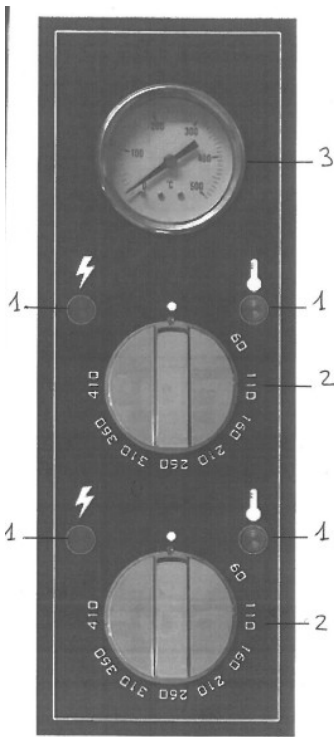

FIG.1 Pannello comandi forni TRAYS
The control panel is installed on the front side of the oven as shown in **FIG. 1**.
- 3) Bring the switch heating elements (**FIG.1; Ref.3**) in **pos."I"**;
- 4) Enable the operation of the resistors setting the thermostats (**FIG 1;-Ref. 2**) on the temperature of **150 °C** indicated on the handle. The related red warning lights signaling the operation of the resistors in use switch on;
- 6) Disable the operation of the resistors setting the thermostats (**FIG. 1; Ref. 2**) in position **"0"** and their warning light will turn off; **For the oven 2/40:** press the general switch and turn off the heating elements;
- 8) Close the door and repeat the process described in Section **4**) bringing the thermostat (**FIG. 1; Rif.2**) at the temperature of **400 °C** indicated on the knob;
- 10) Disable the operation of the resistors bringing the thermostats (**FIG. 1; Ref. 2**) to **pos. "0"**;
- 2) Bring the switch heating elements (**FIG.1; Rif.3**) in **pos."I"**;
- 3) Enable the operation of the resistors bringing the thermostats (**FIG. 1;-Ref. 2**) to the wished temperature indicated on the handle. The related warning lights signaling the operation of the resistors in use will switch on;
- 4) Once the oven has reached the wished temperature (see point **9**) of this paragraph), visible on the thermometer (**FIG. 1-Ref. 4**), it is possible to insert the pizza in the oven for the backing;
- 6) To light the inside part of the backing chamber, press the oven lamp switch (**FIG. 1-Ref. 5**);
- 1) Turning off the oven bringing in **pos."0"** the switches which activates the resistance (**FIG.1; -Rif.3**) and the knobs that regulate the thermostats (**FIG.1; -Rif.3**);